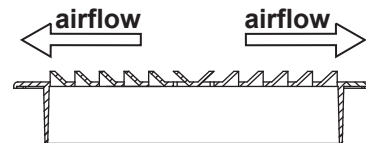

FIG.3
**note:** Return air vent deflectors should face the sides to properly vent the air. **FIG.3**